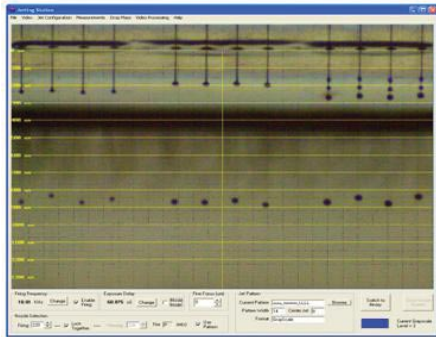

Figure 5: Three drop masses from a common nozzle plate showing uniform velocity and drop placement Dimatix VersaDrop™
- **Drop-mass modulation** - Inkjet heads are predominantly binary. That is to say, you either produce a drop or not. It is not easy to create grey levels. When evaluating print heads with the ability to produce variable drop masses, drop-velocity control is also essential. The smaller drop and the larger drop must land on the substrate in the appropriate location. To do this, their drop velocities need to be matched. (See Figure 5, page 34)